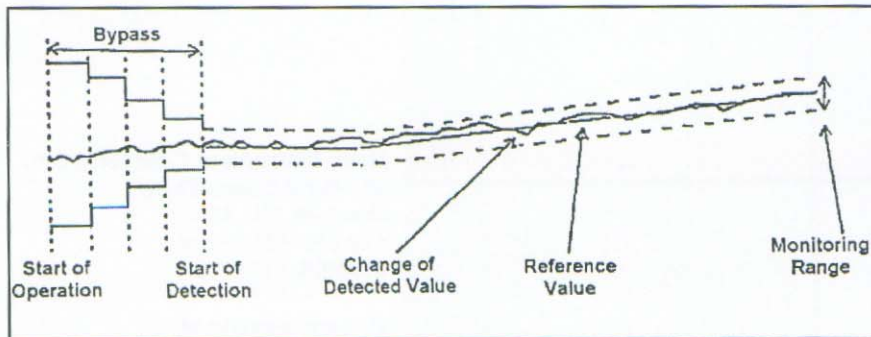

Fig. 4 — Adaptive mode alarming.
**Adaptive Mode Alarming:** Here the concept is to compare the current sensor to target displacement with a predetermined number of strokes of the machine, **Figure 4**. This has been termed the stroke to stroke "rolling average" method of control where the alarming is based on a calculated average of the previous strokes.